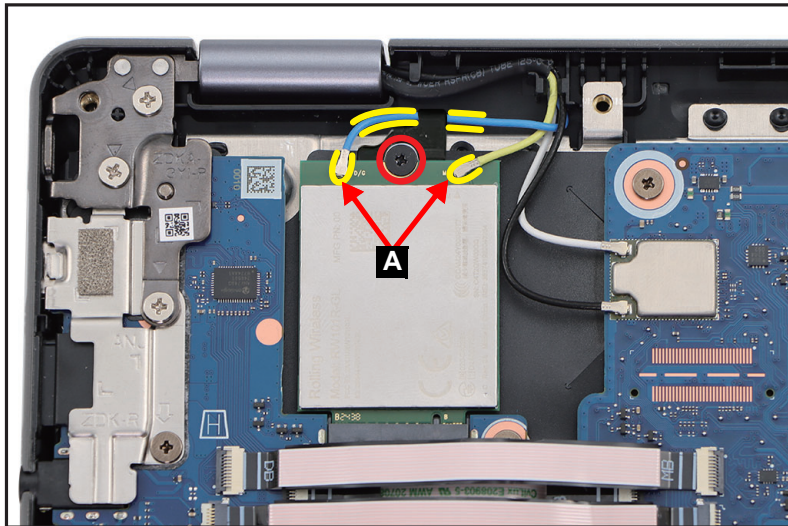

Figure 1-23. LTE Module Removal
1. Disconnect the LTE antennas cables from the LTE module connectors (A). Then unroute the auxiliary antenna cable from the cable rubber guide as shown in Figure 1-23.
2. Remove one (1) screw securing the LTE module in place (Figure 1-23).